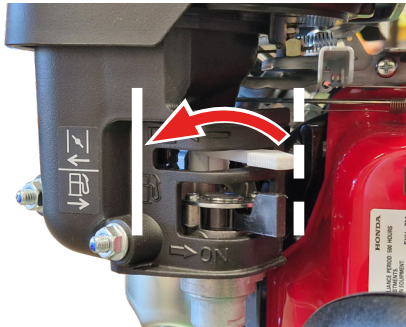

Fig.7D - Choke lever closed.
4. Set the choke lever to the *closed* position (Fig.7D). Note, setting the choke to this position is not required if the engine is warm or the air temperature is high.